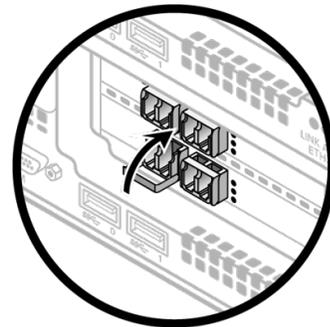

Figure 6-6. Closing the Latch
2. Close the optical transceiver latch to secure it in the port. See Figure 6-6.